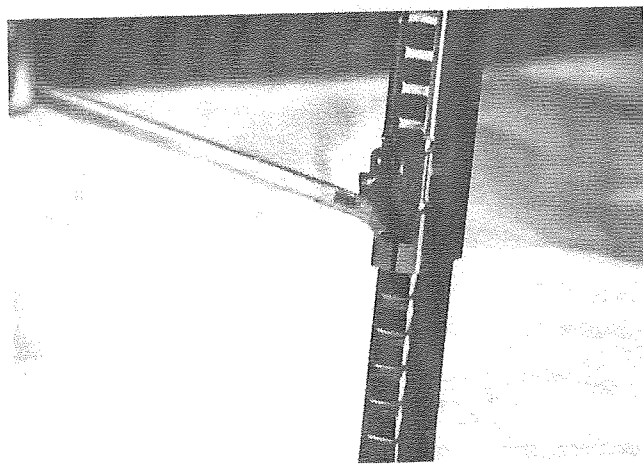

FIG. 35 - Stabilizer Jack Release
27. Place the stabilizer jack handle into the ratchet on the stabilizer jack and lift upward slowly. This releases the stabilizer jack and the corner of the trailer will drop somewhat. (See Fig. 35)